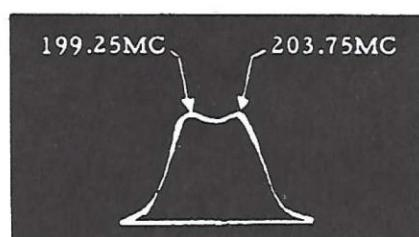

Fig. 13 Channel 11 Response, Bull's Eye Tuner
6. Turn the channel selector to channel 11 and adjust the sweep generator until a response somewhat similar to Fig. 13 is obtained. Adjust the RF plate and converter grid inductance trimmers to obtain symmetry.